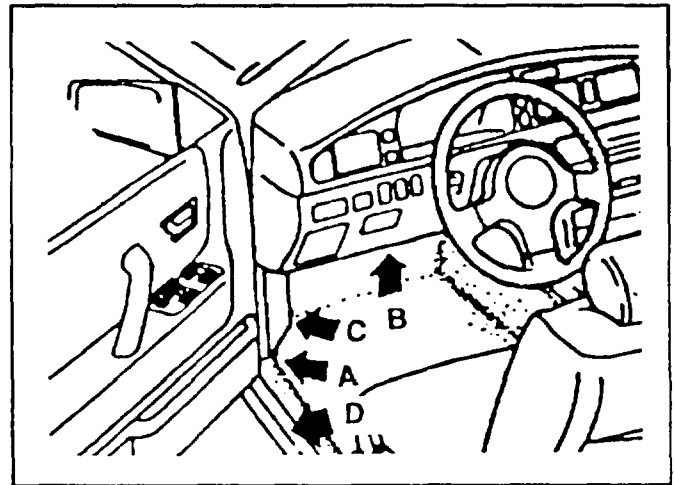

Figure 12: Possible Water Leak Areas
- Note which area the water enters the vehicle. Refer to the appropriate location's repair procedure. **Figure 12.**